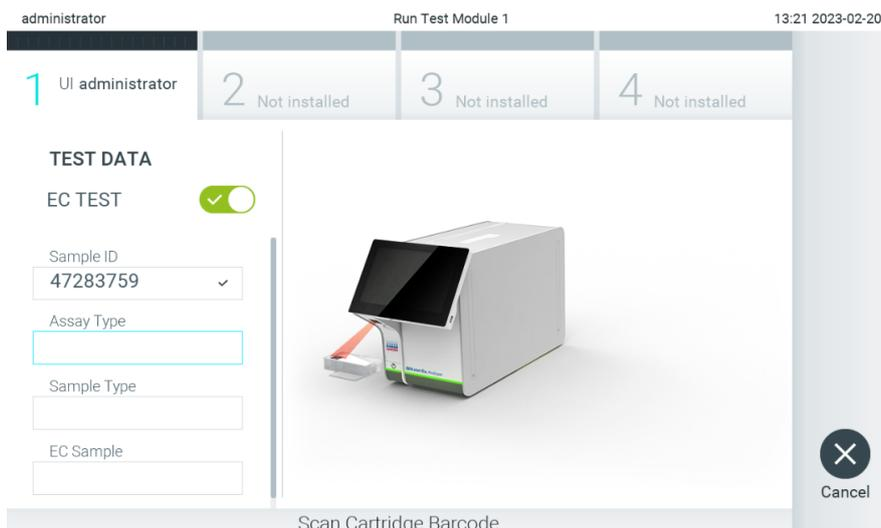

Figure 93. Scanning the QIAstat-Dx assay cartridge bar code.
4. When prompted, scan the bar code of the QIAstat-Dx assay cartridge to be used. The QIAstat-Dx Analyzer 2.0 automatically recognizes the assay to be run, based on the QIAstat-Dx assay cartridge bar code (Figure 93)